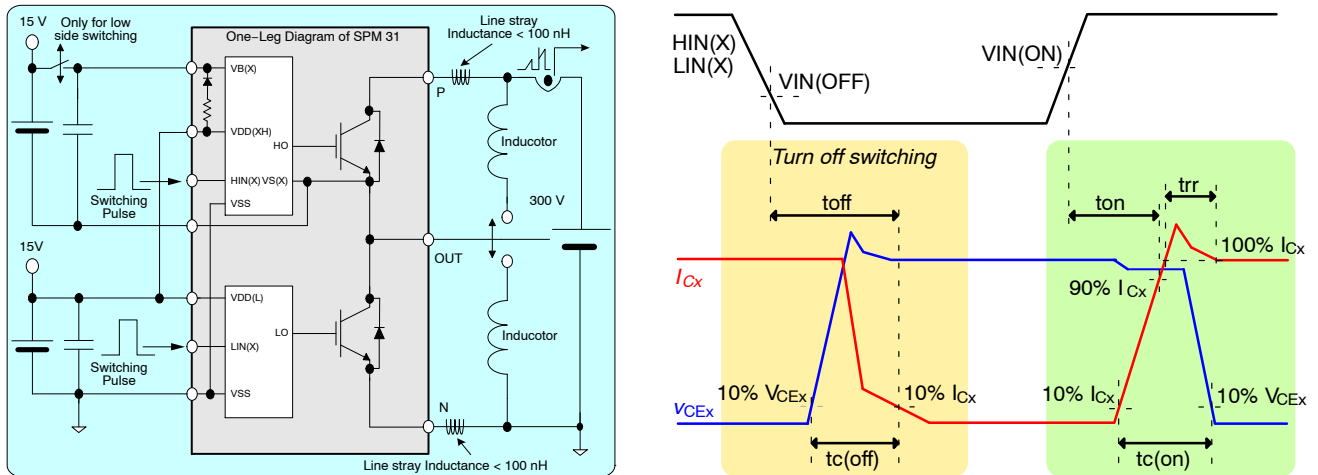

Figure 11. Switching Evaluation Circuit and Switching Time Definition
9. t_{on} and t_{off} include the propagation delay time of the internal drive IC. $t_{c(on)}$ and $t_{c(off)}$ are the switching time of IGBT itself under the given gate driving condition internally. For the detail information, please see and Figure 11.